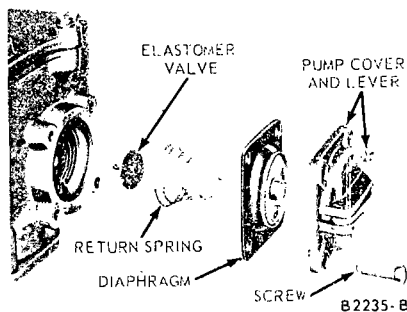

FIG. 20—Accelerating Pump Assembly
6. Remove the accelerating pump operating rod retainer. To release the rod from the retainer clip, press the tab ends of the clip together; then, at the same time, press the rod away from the clip until it is disengaged. Remove the rod. Remove the accelerating pump cover, diaphragm assembly and spring (Fig. 20).
5. If the Elastomer valve was removed, lubricate the tip of a new Elastomer valve and insert the tip into the accelerator pump cavity center hole (Fig. 20). Using a pair of needle nosed pliers, reach into the fuel bowl and grasp the valve tip. Pull the valve in until it seats and cut off the tip forward of the retaining shoulder. Remove the tip from the bowl. Position the diaphragm return spring on the boss in the chamber.